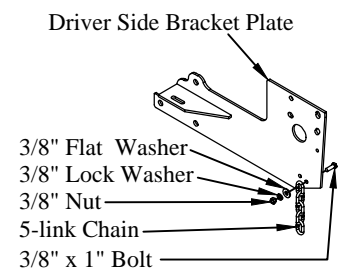

Figure 4: Chain-up feature hardware.
- 5. Install** the 5-link chain on the driver side bracket plate with a 3/8" x 1" bolt, flat washer, lock washer, and nut (Figure 4).